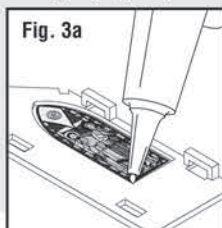

Fig. 3a
- Depending on application, insert Window Material into recess of window opening or position over window on inside of building (**Fig. 3a and 3b**).
- Dab a tiny amount of glue carefully around edges (**Fig. 3a**).